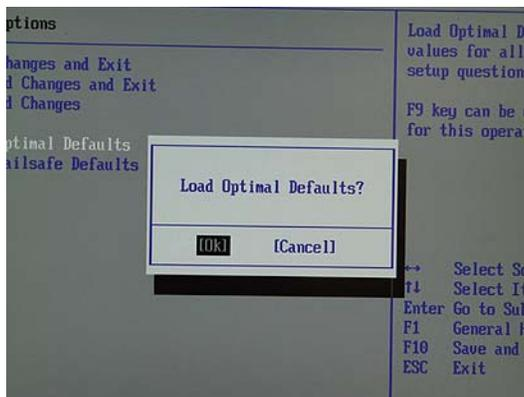

Figure B-10
- 4) Press the <Enter> key to select this item. You will be presented with a confirmation screen as shown in Figure B-10.